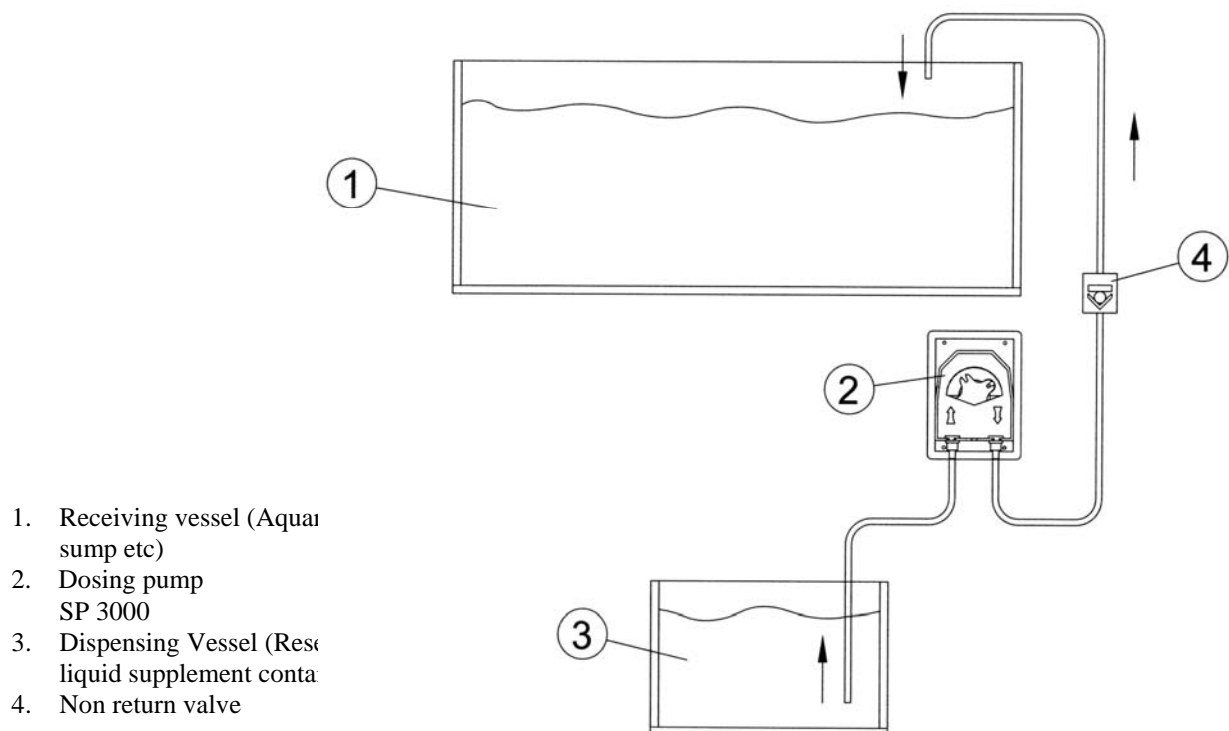

fig 1: Installation method for dosing from a dispensing vessel, including a non return valve.
- The pump is self priming and should be mounted above the water level of the liquid storage tank (see fig 1).
- If small amounts of water need to be precisely dosed then a non return valve should be placed in the outlet hose of the pump. This prevents the pressure tube emptying and ensures that the same volume is dosed during each operating cycle (see fig 1).